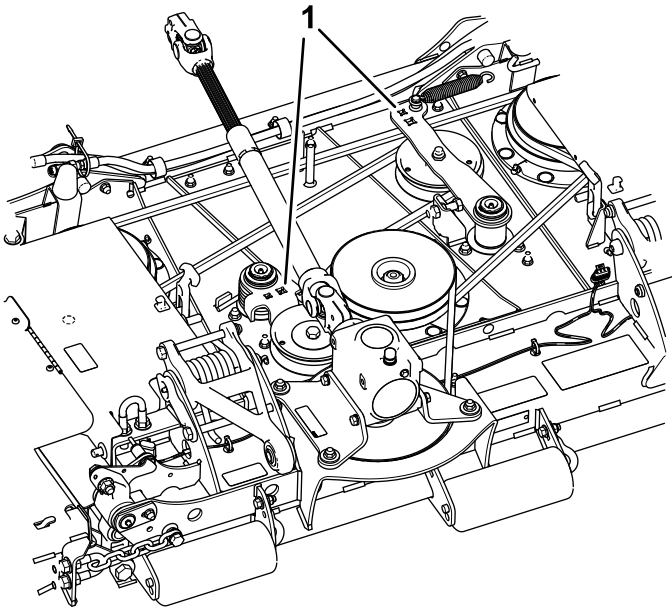

Figure 23
2. Using a socket wrench in the idler-arm holes, move the idler pulley away from the drive belt to release the belt tension and allow the belt to be slipped off pulley (Figure 23).